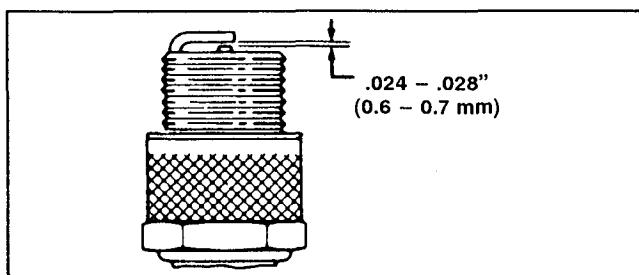

Figure 16
## REPLACING SPARK PLUG (Fig. 16)
3. Set air gap at .024 – .028" (0.6 – 0.7 mm) as shown in Figure 16. Install correctly gapped spark plug and gasket seal. Tighten plug firmly to 9 ft-lb (1.2 Kg-m).